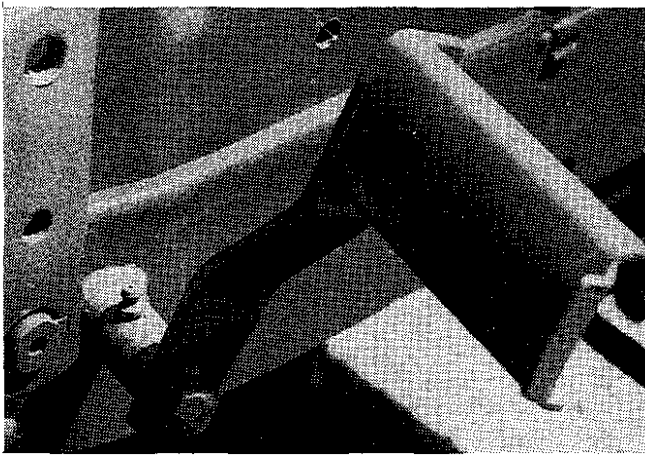

FIGURE 16
3. Depress the clutch **brake** pedal all the way and hold it down. (See figure 16).